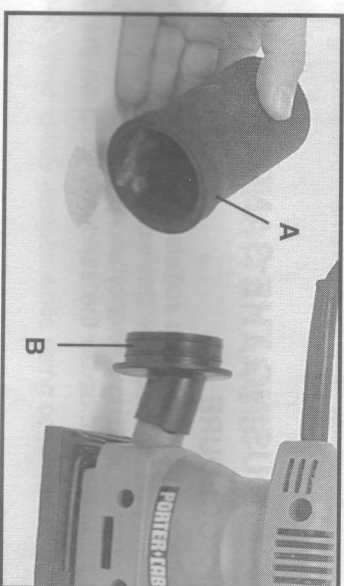

Fig. 12
3. Periodically remove the dust container (A) Fig. 12, from its mounting flange (B), and empty the collected dust.